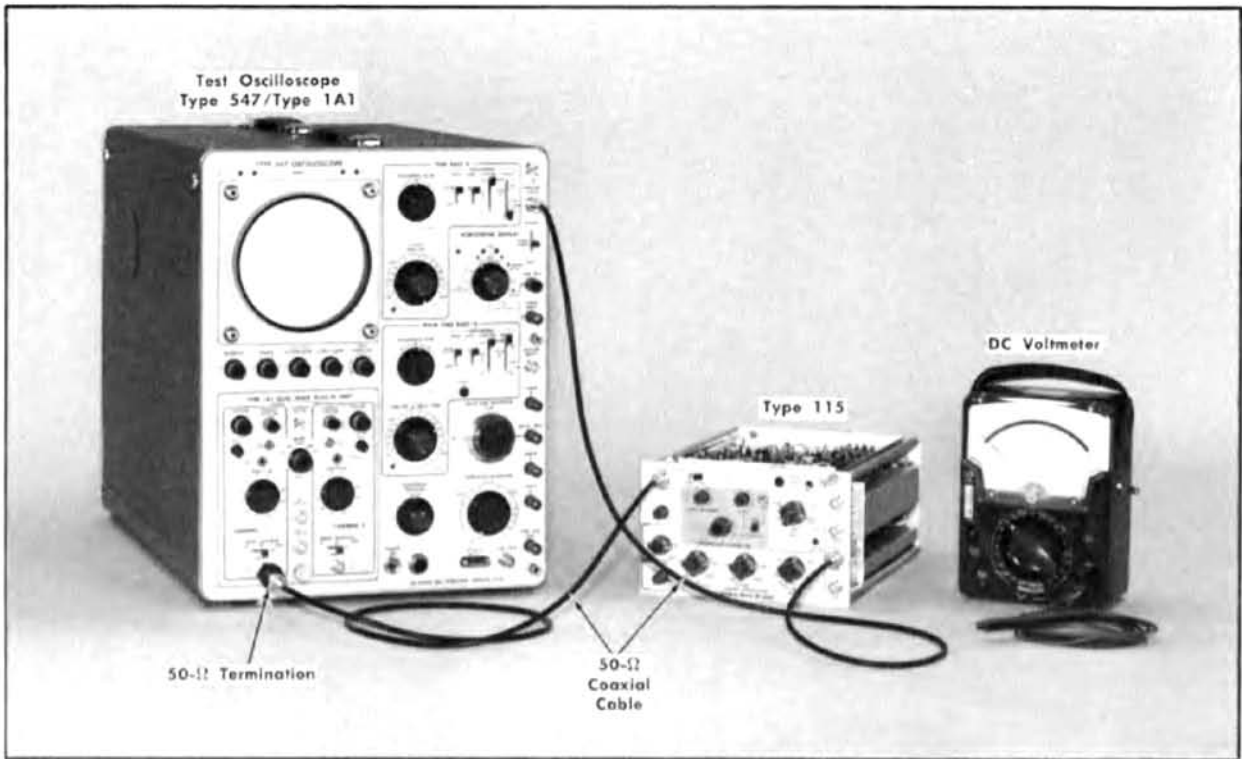

Fig. 5-4. Initial test equipment setup for steps 4 through 8.
- a. Test equipment setup is shown in Fig. 5-4.